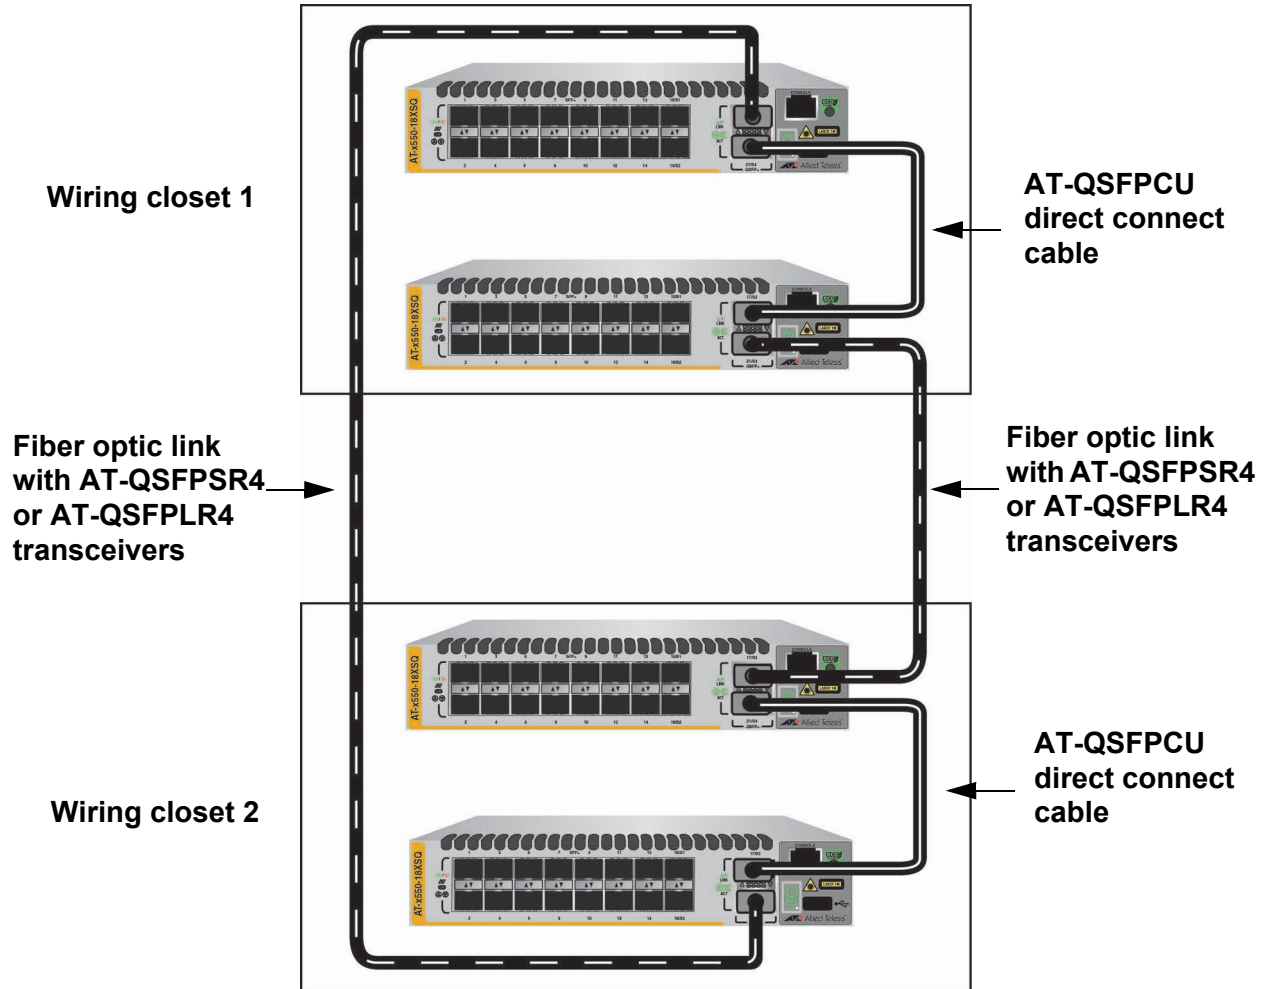

Figure 17. Example of a 40Gbps Trunk with Fiber Optic and Direct Connect Cables
- ❑ 40Gbps trunks can have both fiber optic transceivers and AT-QSFP1CU or AT-QSFP3CU direct connect cables. This is useful in situations where switches are at different distances from each other. Refer to Figure 17.